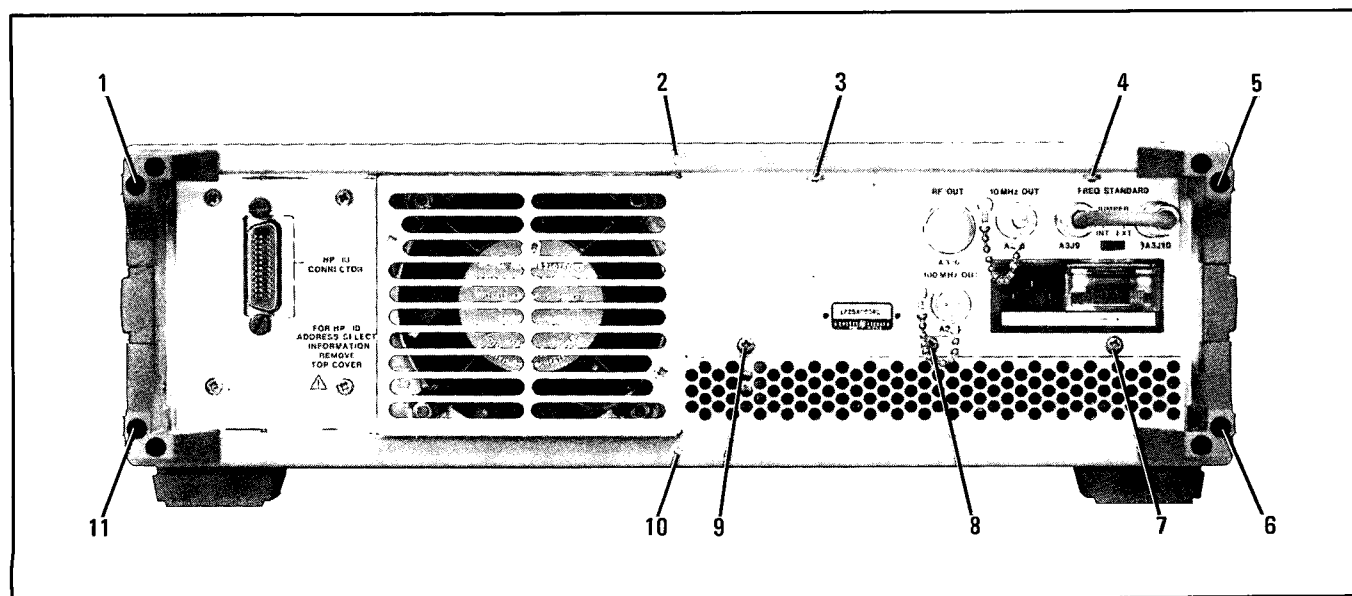

Figure 8-2. Rear Panel of the Synthesizer
- a. Remove the two plastic feet from the rear of the top cover by removing the Pozidriv screw from each foot (see Figure 8-2).
- b. Unscrew the Pozidriv screw at the middle of the rear edge of the top cover (see Figure 8-2). This is a captive screw and will cause the top cover to pull away from the front frame. Captive screw part number HP 0560-1171; clip part number HP 0510-0043.
- b. Remove the two plastic feet from the rear of the bottom cover by removing the Pozidriv screw from each foot (see Figure 8-2).
- c. Unscrew the Pozidriv screw at the middle of the rear edge of the bottom cover (see Figure 8-2). This is a captive screw and will cause the front edge of the bottom cover to pull away from the front frame. Captive screw part number is HP 0570-1171; clip part number is HP 0510-0043.
b. Remove the two Pozidriv screws from the top of the rear frame and the three screws from over the heat sink (see Figure 8-2).